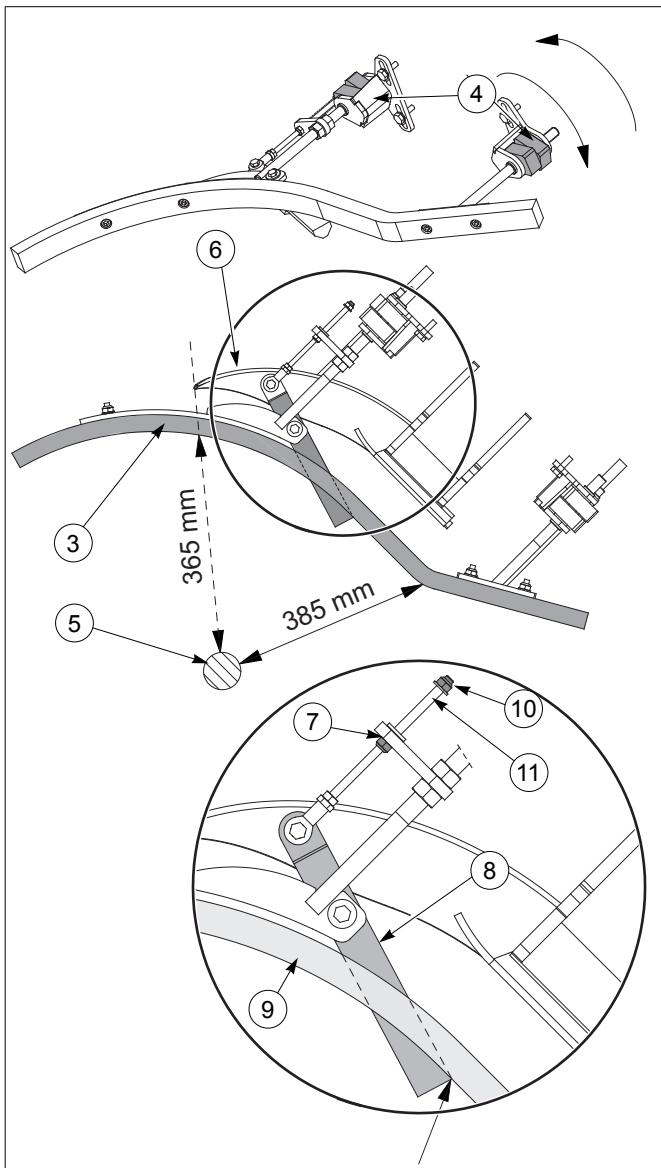

fig. 36 Hock cutter guide
2. Once locked together, turn blocks as a unit to lengthen or shorten rods to dimensions shown in fig. 36.
See fig. 36.